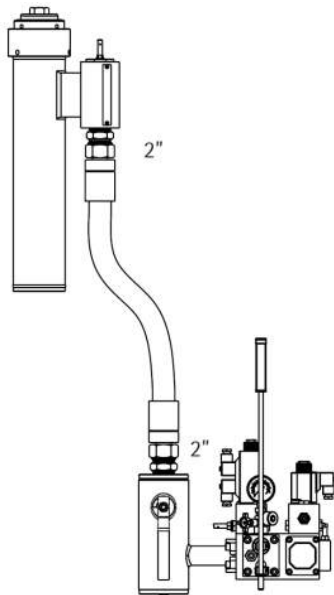

Figure 11 – Connection with flex hose 2"
- With a single flexible hose 2" and nipples 2", 60° angle (see Figure 11);